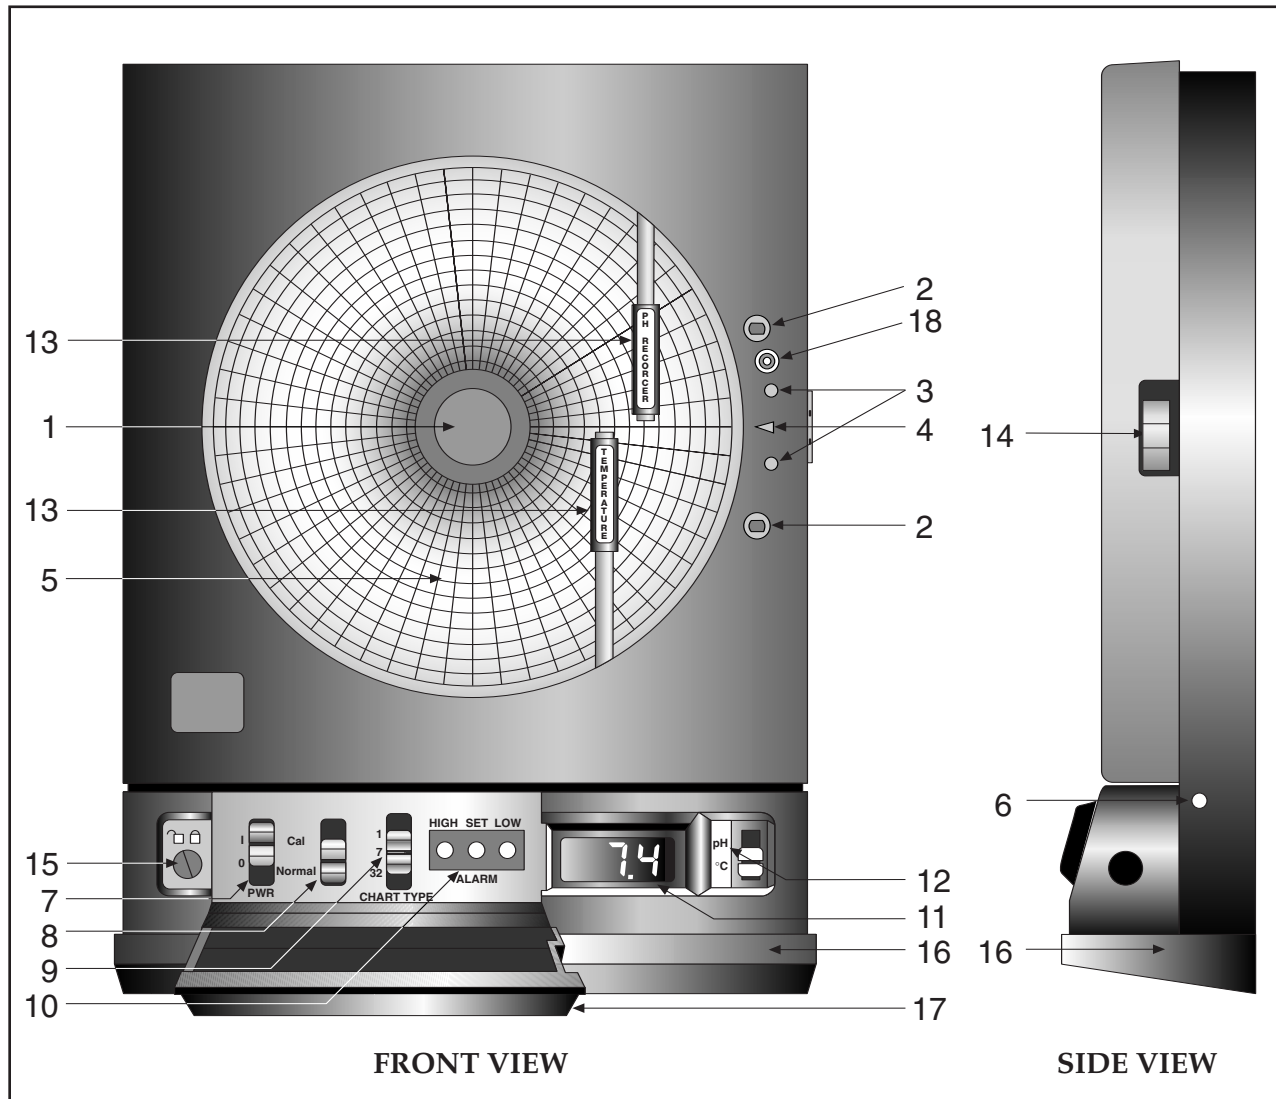

Figure 1-1. Front and Side Views of the Recorder
To mount the recorder on the wall, first locate the wall mounting holes using the template provided in the wall mounting kit. Leave the decorative foot cover (Figure 1-1, item #16) in place*. After drilling the holes, insert the wall anchors and put in the screws, leaving $\frac{1}{8}$ inch (3 mm) between the screw heads and the wall. Hang the recorder by positioning the two (2) “keyholes” in the rear cover over the screw heads.
The recorder can be ac powered using the 9Vdc, 1Amp ac adaptor supplied. The ac power jack is located on the right side of the unit (refer to Figure 1-1, item #6.). Make sure the power switch on the control panel (refer to Figure 1-1, item #7) is in the "O" position when plugging in the ac adaptor. The adaptor cable is 6 feet (2 meters) long.